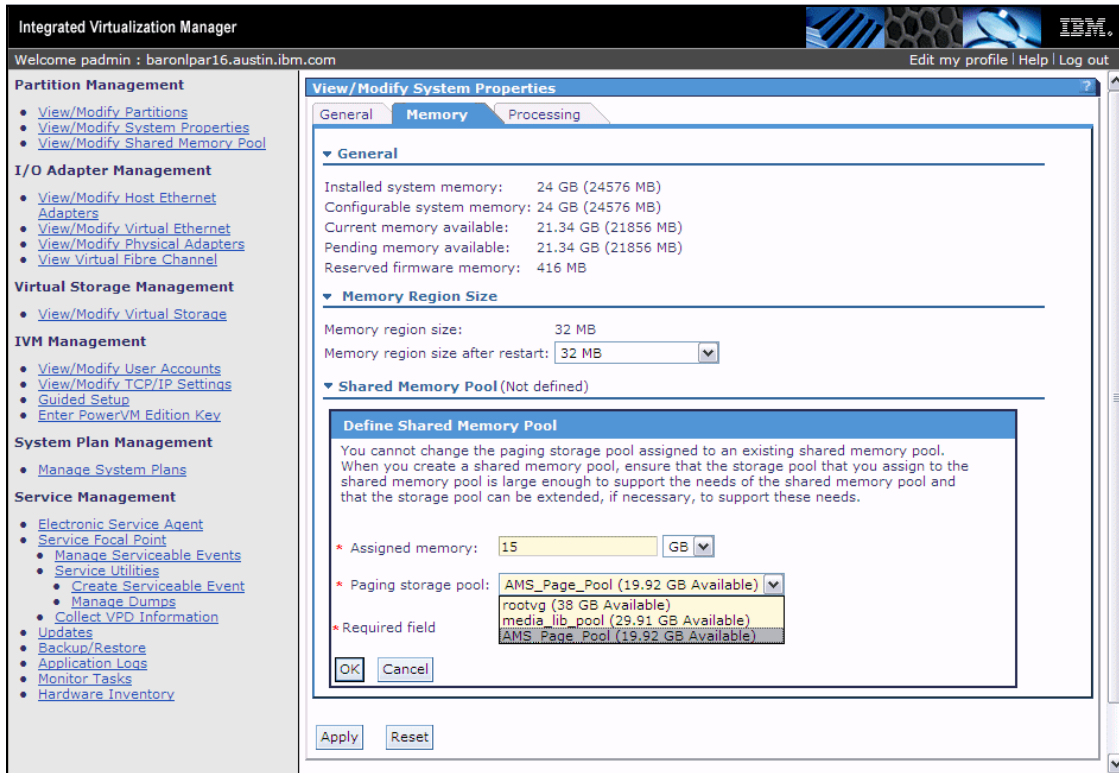

Figure 5-6 Shared memory pool configuration values
4. Clicking the **Define Shared Memory Pool** button will open the dialog for input of the desired memory pool size and the storage pool to be used for the paging storage pool. When these values have been entered and selected from the drop down box as shown in Figure 5-6 on page 189 click the **OK** button.